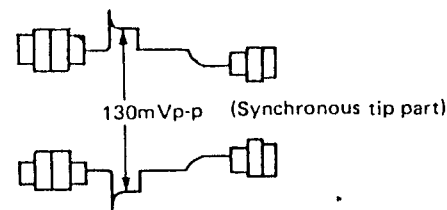

Figure 48.
- 4) Adjust FM record current to the level shown in figure 48 by using R311.